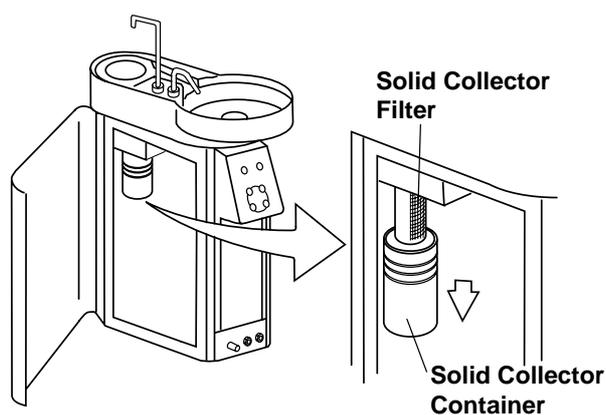

Fig.5-4 Vacuum Solid Collector
- (3) Vacuum Solid Collector (**Fig.5-4**)